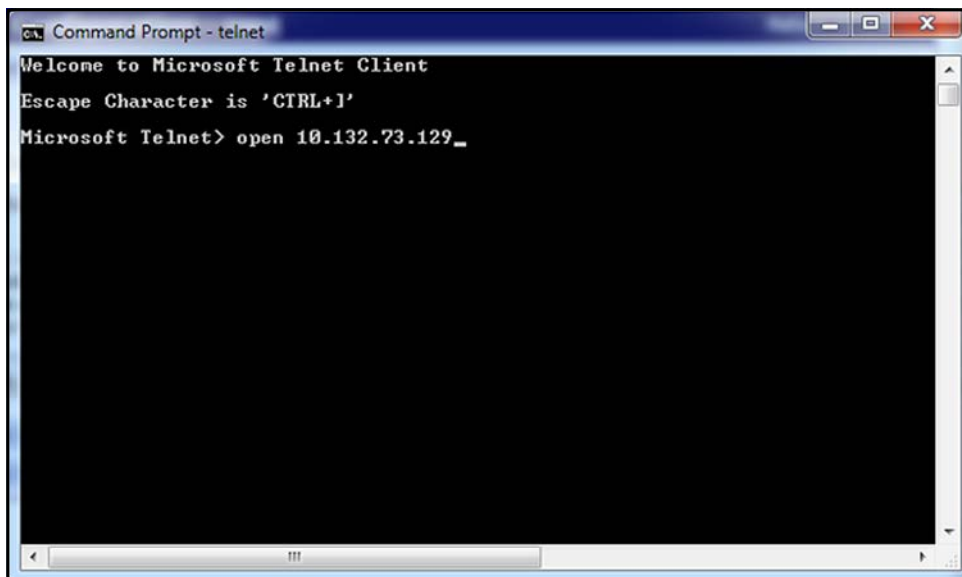

Figure 116: Telnet OPEN Command
2. To connect to the module, use the **OPEN** command with the **IP address** of the module (see *Figure 116* below).